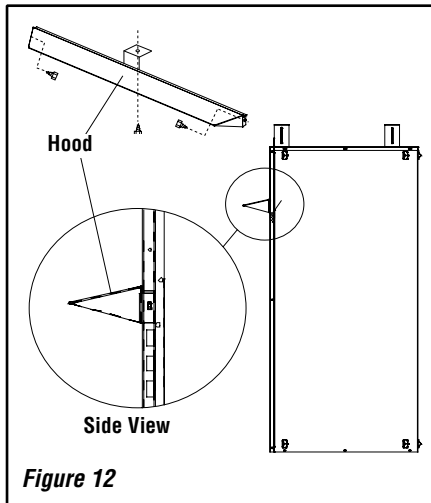

Figure 12
NOTE: This hood is optional. See Figure 12.
- Step 2.** Align the hood with the holes in the side frames as shown in Figure 12. Install three screws as shown in Figure 12. Make sure hood is level and secure.